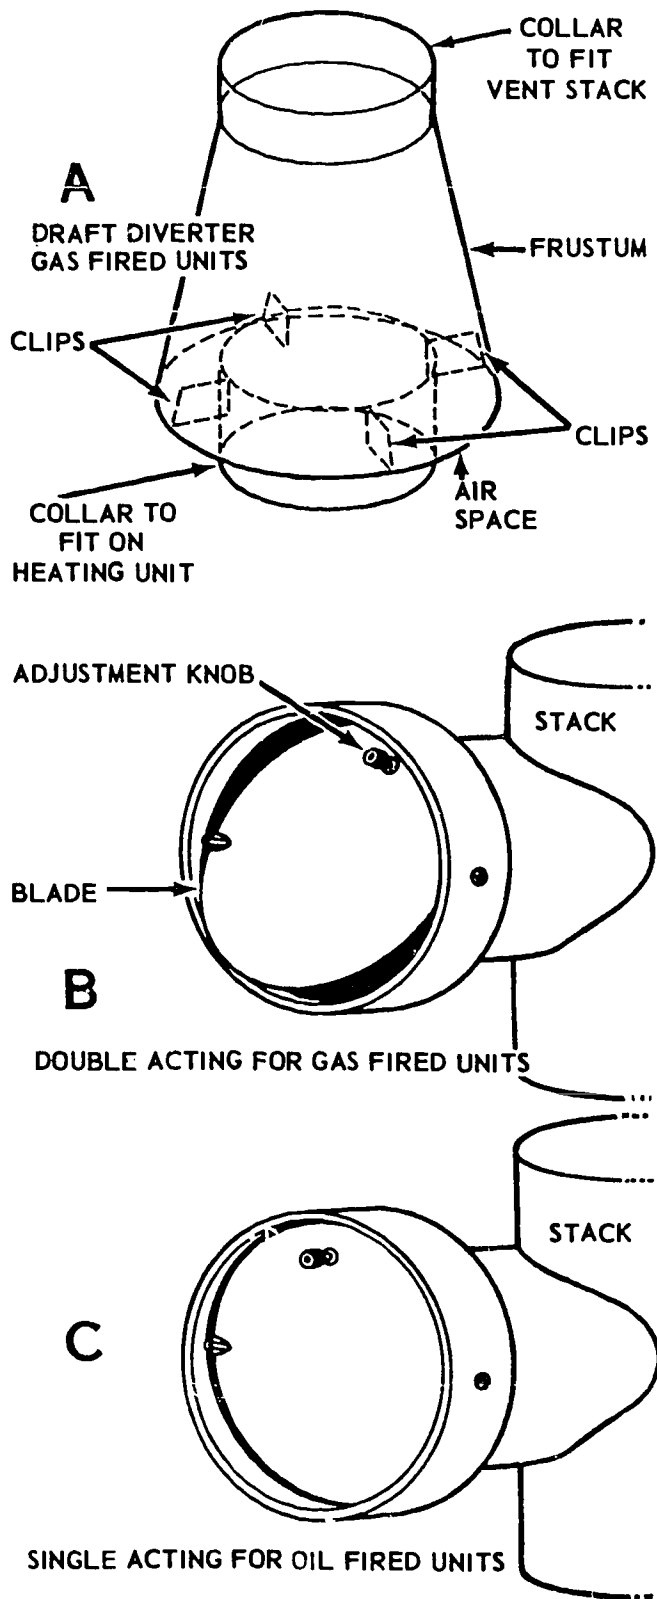

Figure 5-4. Three types of draft diverters.
**Draft Diverters.** Draft diverters are used with the vent stacks for heaters and furnaces and are available in various sizes and types. These devices prevent excessive updrafts or downdrafts in the vent stacks. The draft diverter shown in view A of figure 5-4 has no movable parts and consists of the frustum of a cone with collars attached at each end to act as slip joint connections. The clips center the bottom of the cone so that there is an equal airspace all around the lower collar. The lower collar is the same size as the vent outlet on the heating unit and is installed as the first joint in a stack. The upper collar is the same size as the stack.
The double-acting draft diverter, shown in view B of figure 5-4, is another type of damper used for gas fired furnaces. It is installed horizontally as a tee, off one of the joints of a stack close to the heating unit. Notice its hinge which allows the blade to swing in to dampen updrafts and to swing out to dampen downdrafts. The blade has an adjustable knob for balancing the blade. Always install the hinge on the blade parallel to the floor.
The single-acting draft diverter, shown in view C of figure 5-4, is used for oil-fired furnaces. The blade on this type swings inward only. This draft diverter is also installed horizontally to the floor as a tee, off a horizontal or vertical joint of a stack close to the heating unit. The single-acting and double-acting draft diverters are used with stacks that are 7 to 10 inches in diameter.